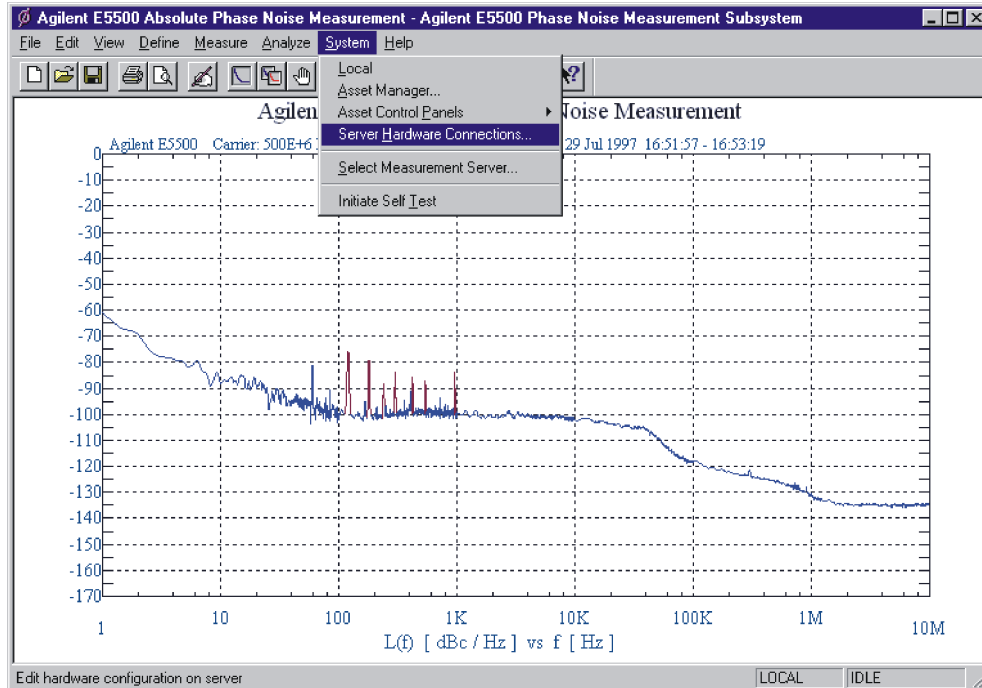

Figure 1-34 Navigate to Server Hardware Connections
- 1 From the **System** menu, navigate to **Server Hardware Connections**. See Figure 1-34.